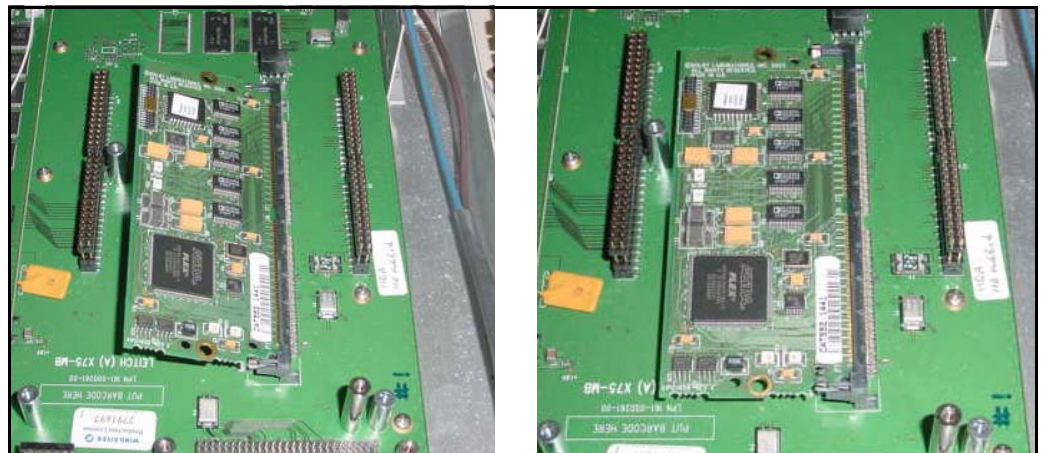

Figure 2. Dolby Decoder Module Installation
5. Install the Dolby decoder module in the socket. (See Figure 2.)